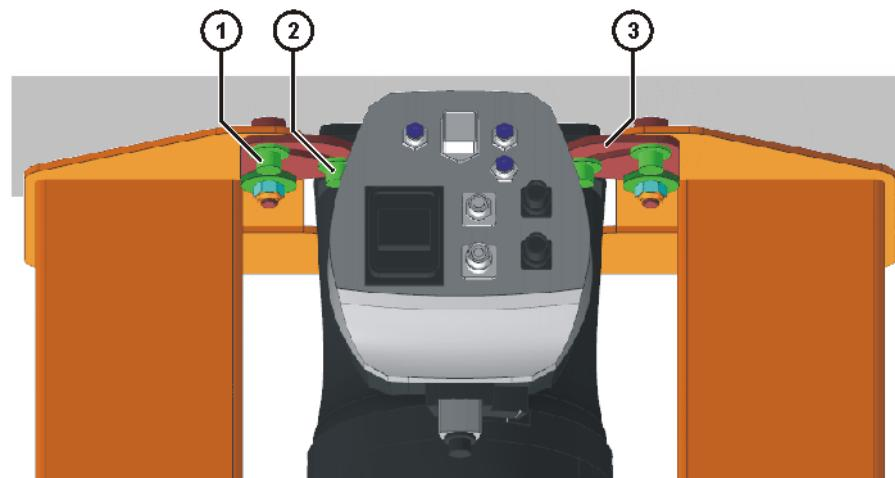

Fig. 11-8: Positioning and fastening the swivel holders
- 14. Position swivel holders on base frame (**>>> Fig. 11-8**).